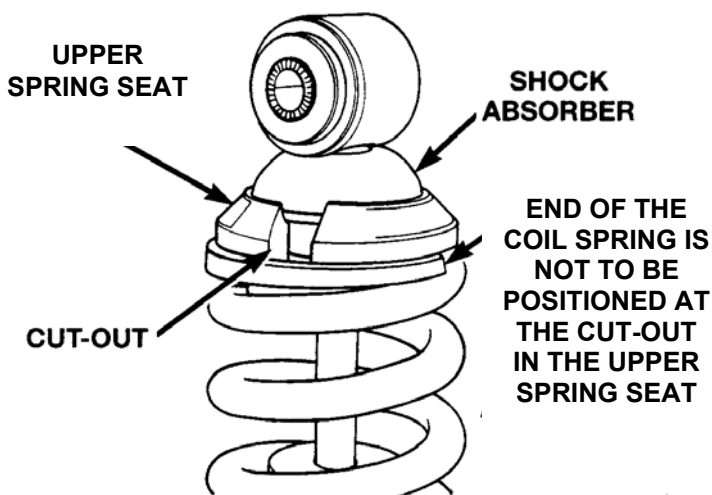

Figure 30
4. Compress the coil spring enough to allow the coil spring upper seat to be removed (Figure 30).
**CAUTION:** When installing the upper spring seat, be sure the end of the last coil of the coil spring is not positioned at the cut-out notch in the spring shim or upper spring seat (Figure 30).